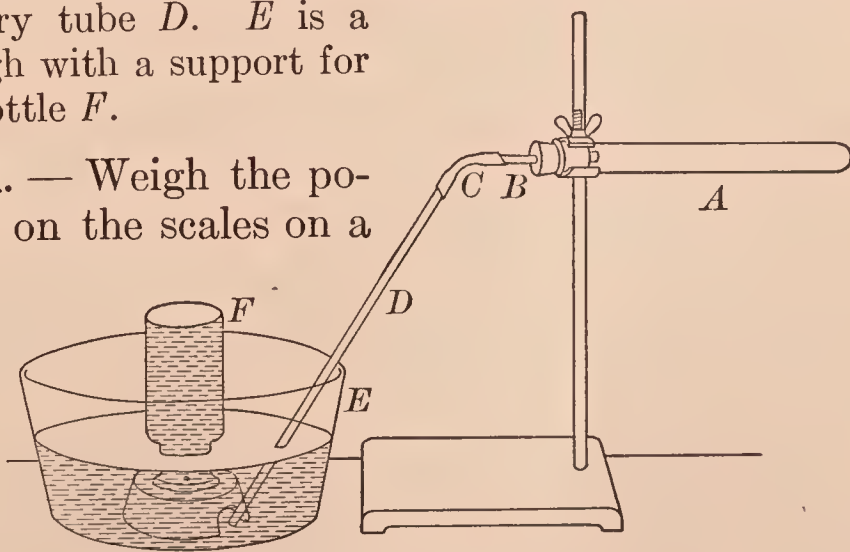

FIG. 6. — Apparatus for preparing oxygen
**APPARATUS.** — As in Fig. 6. *A* is a large test tube (20 cm. or 8 in.) provided with a one-hole rubber stopper, to which is fitted a short glass tube *B*; the latter is connected by the rubber tube *C* with the delivery tube *D*. *E* is a pneumatic trough with a support for the collecting bottle *F*.
tube. Insert the stopper with its tubes, and clamp the test tube to the iron stand, as shown in Fig. 6. The end of the delivery tube *D* should rest on the bottom of the trough under the hole in the support.